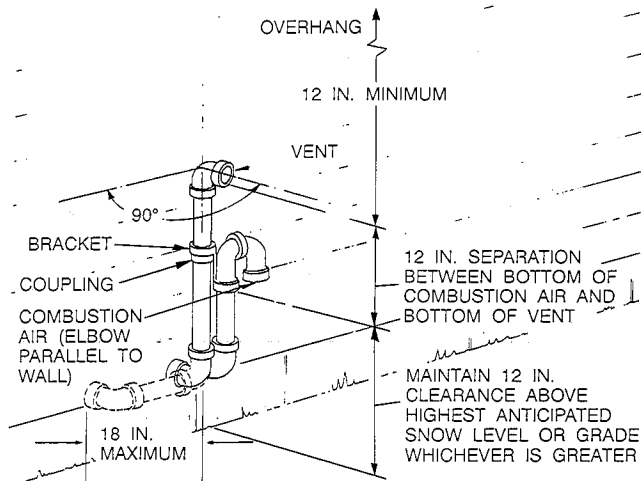

Fig. 17—Sidewall Termination (less than 12 in. above snow level or grade)
3. Sidewall termination when combustion-air and vent pipes exit through sidewall less than 12 in. above highest anticipated snow level or grade. (See Fig. 17.)
- Loosely install U-fitting and bracket as shown in Fig. 17. Position U-fitting so open end is against structure wall.
- Loosely install vent outlet pipe and elbow in coupling as shown in Fig. 17.
- Check required dimensions as shown in Fig. 17.
- Install bracket as shown in Fig. 17.